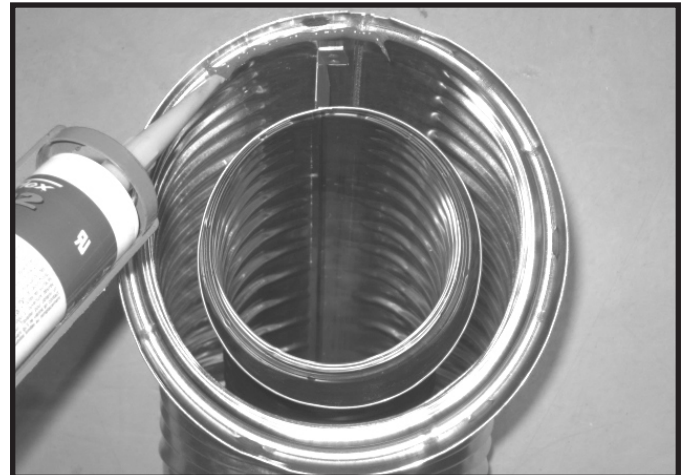

Figure 7.1 High Temperature Silicone Sealant
- Apply a bead of silicone sealant (149 °C (300 °F) minimum continuous exposure rating) inside the female outer pipe joint prior to joining sections. See Figure 7.1. **OR**